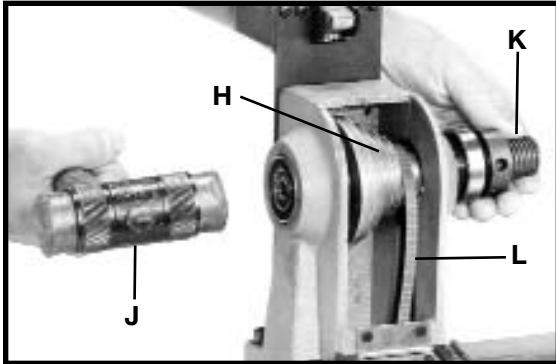
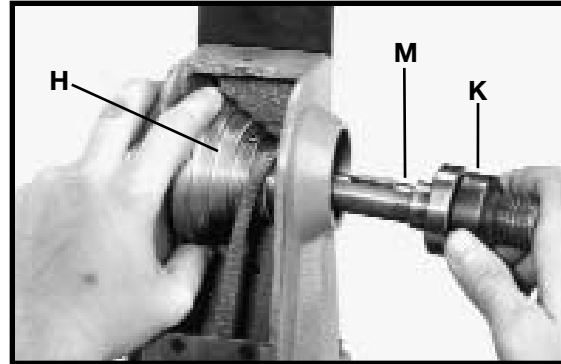

Fig. 29
Fig. 30
6. Use a soft mallet (J) Fig. 29 to carefully tap the spindle shaft (K) thru the bearing. Tap it far enough to move the spindle shaft to the right to remove the spindle pulley (H), and spindle shaft (K), (Fig. 30).
7. Remove the drive belt (A) Fig. 30 from the motor pulley (B).